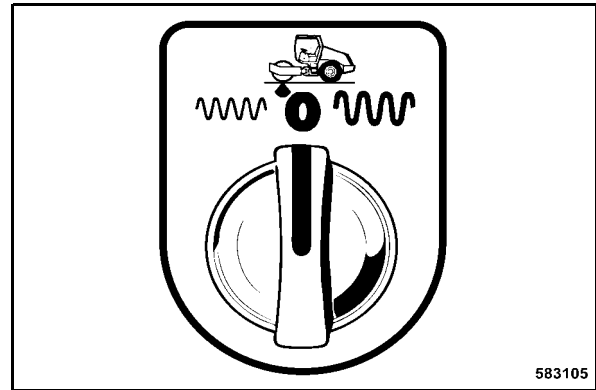

Fig. 65
- Preselect the desired amplitude with the rotary switch for vibration amplitude preselection (Fig. 65).